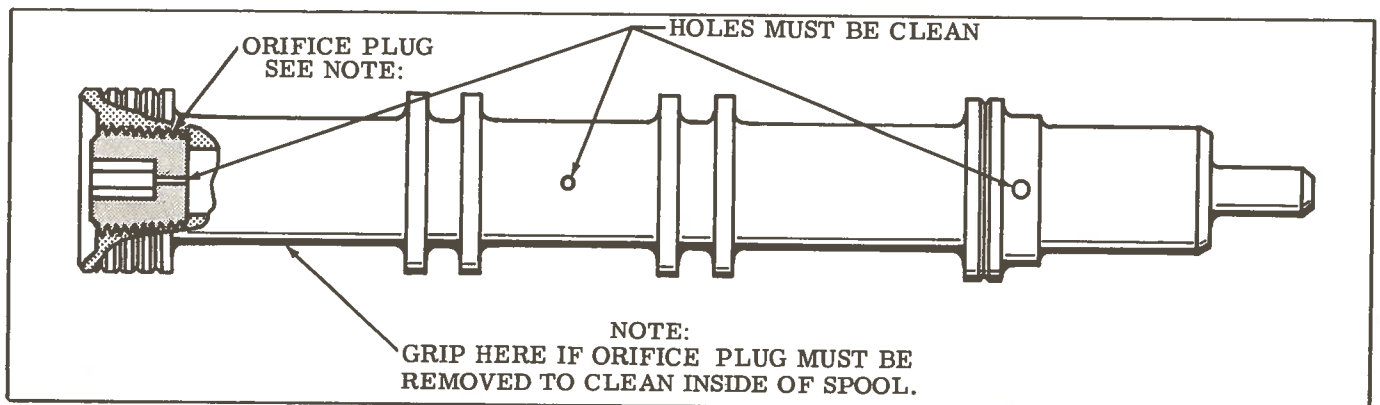

Figure 5. Spool Subassembly
- A. Make sure that the 0.020 hole in the side of the spool (33) and the 0.030 hole in the orifice plug which is screwed in the end of the spool are completely open. (See Figure 5.) The orifice plug in the end of the spool may have to be removed to clean